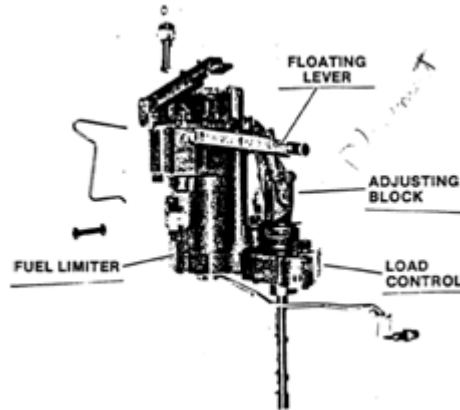

Figure 5-60. Fuel Limiter and Load Control Assembly
37. Install fuel limiter/load control assembly (Figure 5-60) in column.